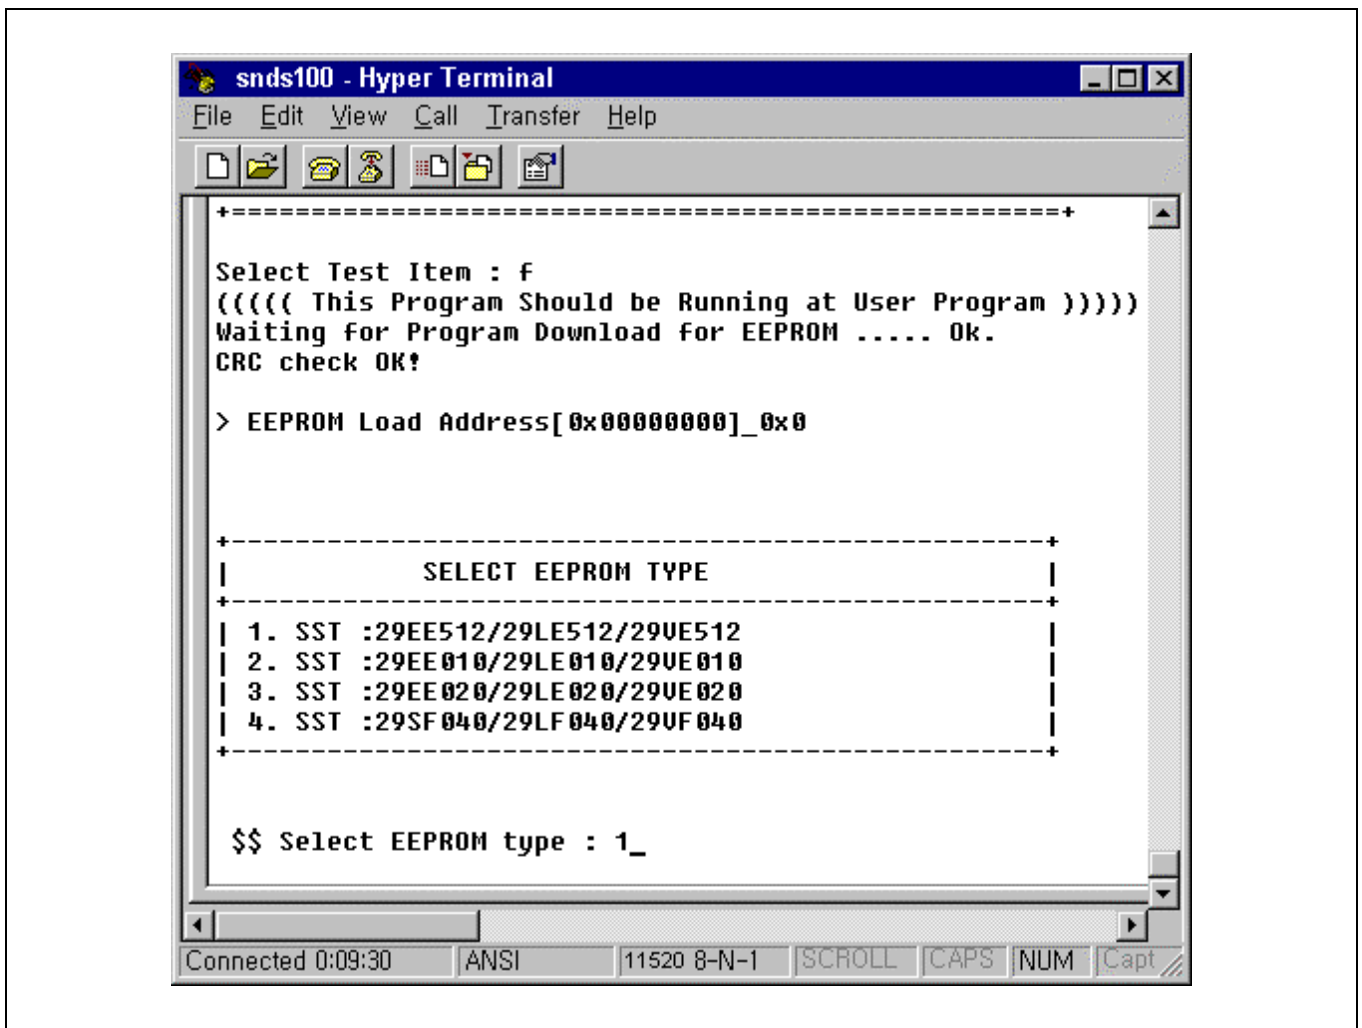

Figure 2-23. Start Flash Download Program
7. Enter EEPROM address.(Figure 2-23)
8. Select EEPROM type.(Figure 2-23)